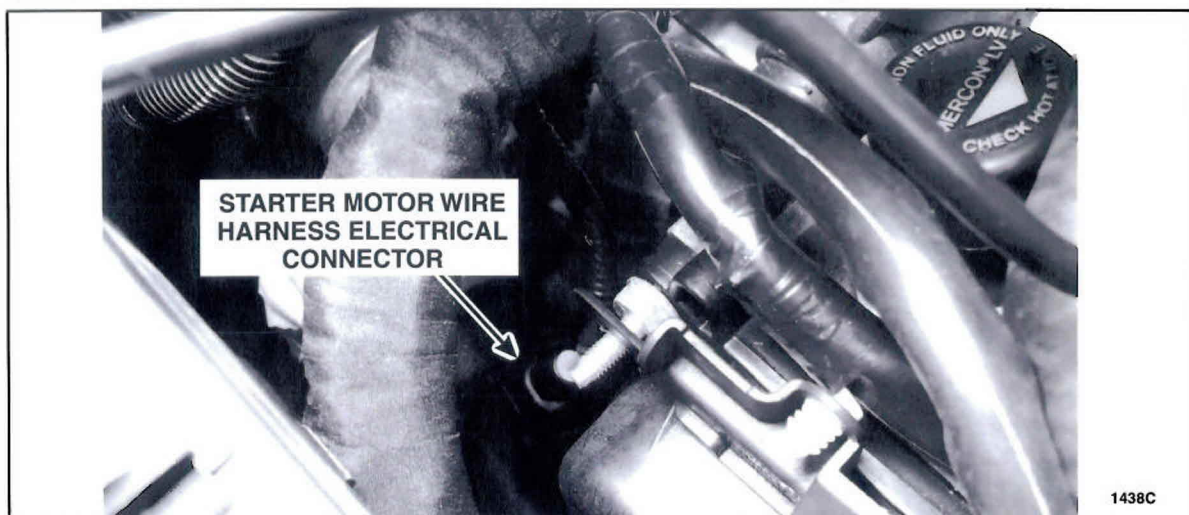

FIGURE 3
6. Disconnect the starter motor wire harness electrical connector. See Figure 3.
19. Connect the starter motor wire harness electrical connector. See Figure 3.